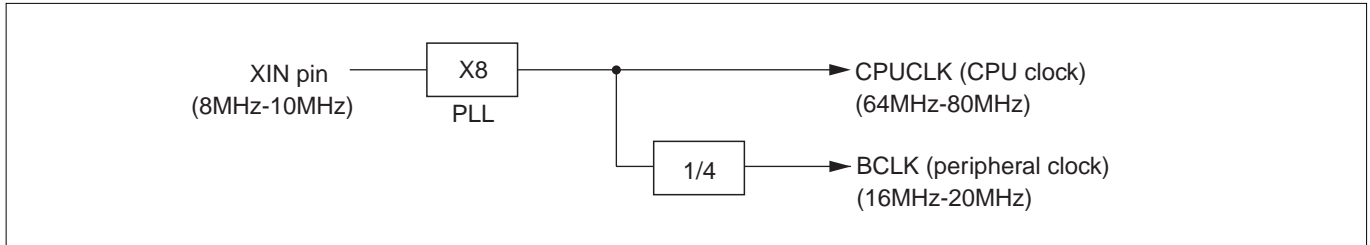

Figure 1.1.1 Conceptual Diagram of the Clock Frequency Multiplier
- The 32182 contains a clock frequency multiplier, which is schematically shown in Figure 1.1.1 below.